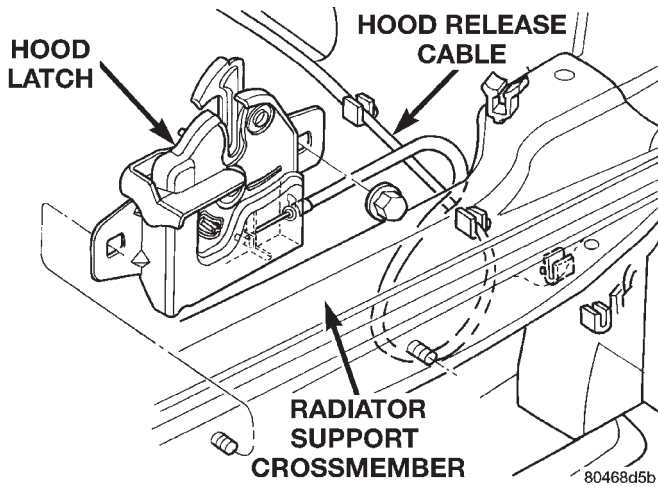
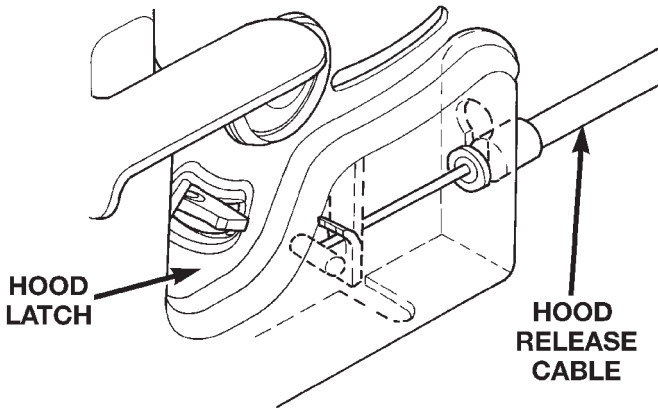

Fig. 2 Hood Latch
Fig. 3 Hood Latch Release Cable
- (1) Release hood latch and open hood.
- (2) Support hood on prop rod.
- (3) Remove nuts holding hood latch to upper radiator support crossmember (Fig. 2).
- (4) Separate hood latch from vehicle.
- (5) Disengage remote release cable from hood latch (Fig. 3).
- (1) Engage remote release cable into hood latch (Fig. 3).
- (2) Position hood latch on vehicle.
- (3) Install nuts holding hood latch onto upper radiator support crossmember.
- (4) Verify operation. Adjust as necessary.